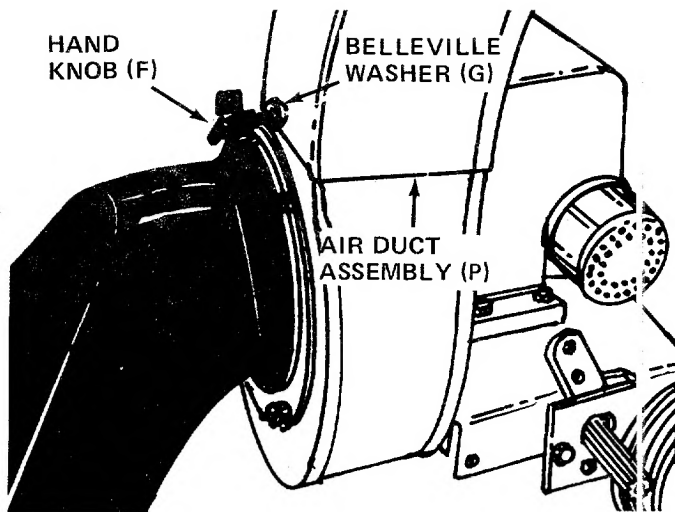

FIGURE 7
4. Place air duct assembly (P) over opening on top of housing. Secure with two hand knobs (F) and belleville washer (G). See figure 7.